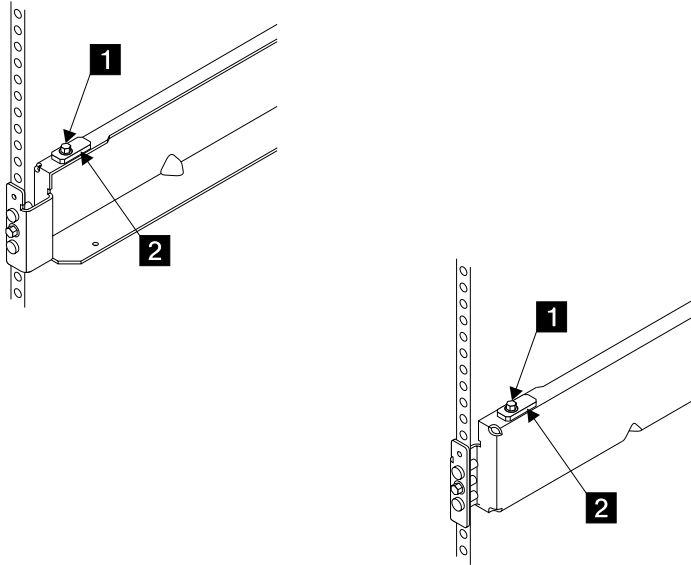

Figure 7. Installing the Clamp Plates onto an RS/6000 Rack
Step 10. Refer to Figure 7.
- Step 11. Onto each support rail, install a clamp plate **1** and a screw **2**. Ensure that the clamp plates are oriented as shown in Figure 7.